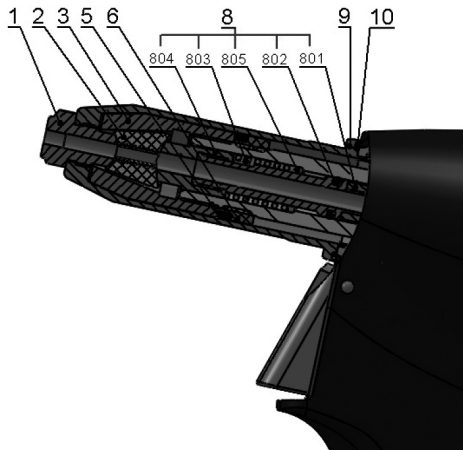
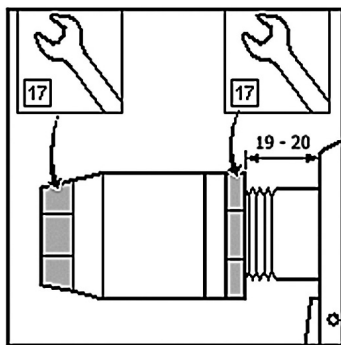

Fig.2
Fig.3
Disconnect the tool from the source of compressed air, unscrew the front nozzle /fig.2 - pos.9/ by means of a spanner no. 23, set the spanner no.17 onto the clamping sleeve /fig.2 - pos.3/, set the spanner no. 17 on the backnut /fig.2 - pos.6/ and loosen. Unscrew the clamping sleeve, replace the jaws /fig.2 - pos.2/ and conduit-suction complet /fig.2 - pos.8/. All used threads are clockwise. Clean the dismantled parts thoroughly and check them visually, especially the following:
- 1) Jaws /fig.2 – pos.2/ - if worn or damaged, replace it, if dirty, clean it with a wire brush.
- 2) Nose-piece /fig.2 – pos.1/ - for wear of functional surfaces of the taper.
- 3) Conduit-suction complet /fig.2 - pos.8/ - inspect parts of the assembly, jaw pusher /fig.2 - pos.804/, spring /fig.2 - pos.803/, washer of spring /fig.2 - pos.803/, O - ring /fig.2 - pos.802/ and conduit-suction /fig.2 - pos.801/ - if damaged or worn, replace it with a new one.
- 4) Front nozzle /fig.2 - pos.9/ - check for damage of the internal surface (Ø 20) .
- 5) Scraper ring /fig.2 - pos.5/ - if damaged or worn, replace it with a new one.
Mount the parts (see par. disassembly) in a reverse order. On the outer surface of the jaws /fig.2 – pos.2/ apply a drop of lubricating oil ( we recommend hydraulic oil HYPIN AWHM 32 CASTROL), apply thin layer of plastic lubricant MOGUL LV 2-3 to the conduit-suction complet /fig.2 – pos.8/. Basic set-up of the jaws is performed as in fig.3.